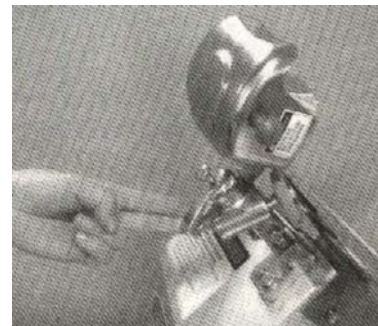

Fig.17-3
3. Turn knife motor on by pressing the start button. Push the lever counterclockwise (Fig.17-3) to bring stones into contact with the knife. Maintain pressure on the handle for 5-10 seconds. Be sure both stones are in contact with knife. Repeat operation until knife is sharp.